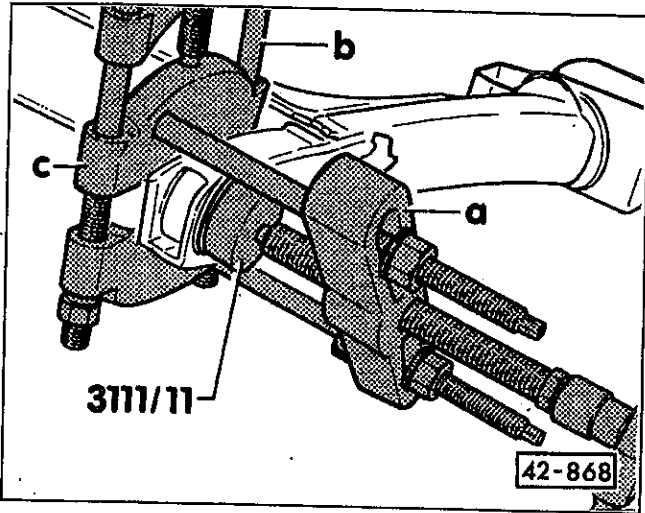

Fig. 7. Rear axle bushing being pressed out. Numbers indicate Volkswagen special tools.
3. Using an appropriate press tool, press bushing out of axle. See Fig. 7.